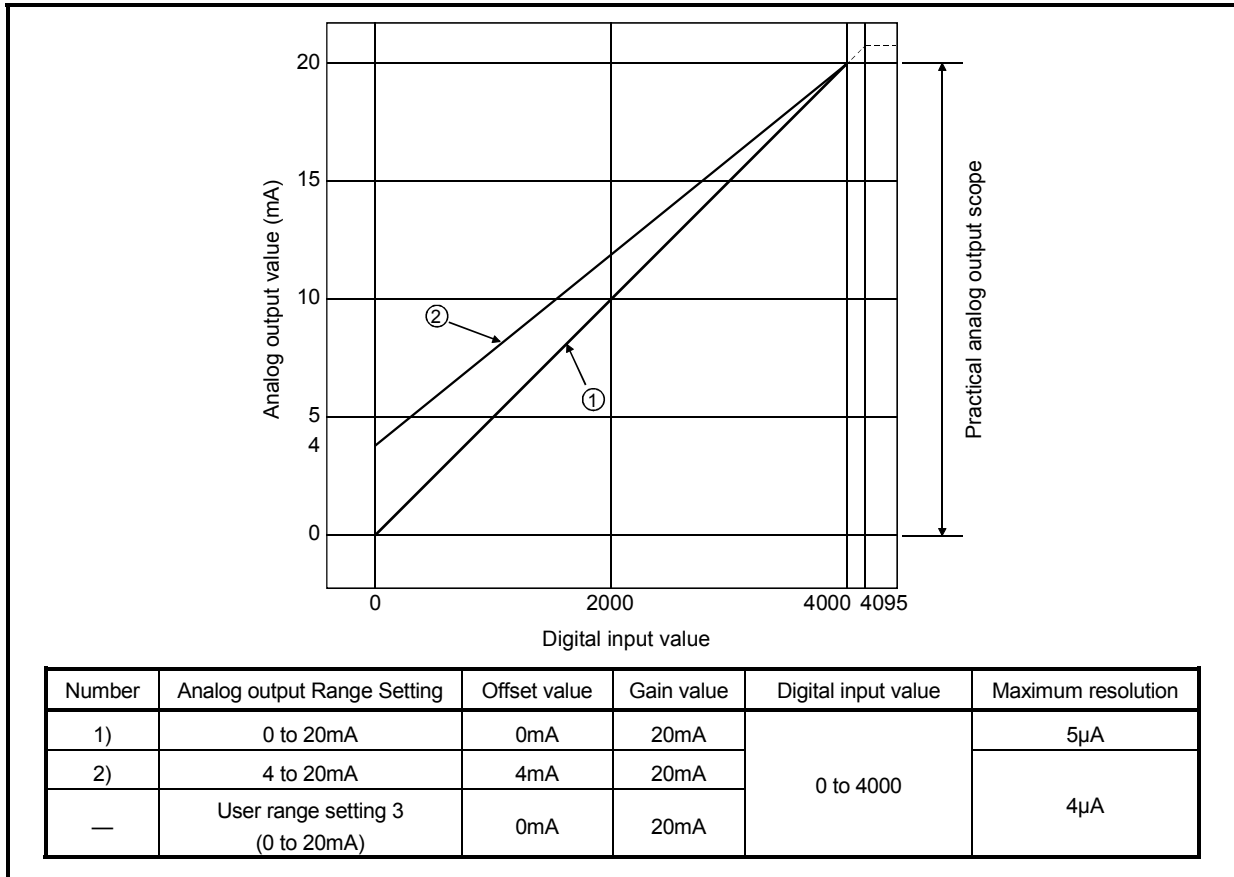

Fig. 3.2 Current Output Characteristic
<p>(1) Within the digital input and analog output scopes of each output range, the maximum resolution and accuracy are within the performance specification range. Outside those scopes, however, they may not fall within the performance specification range. (Avoid using the dotted line part in Fig. 3.2.)</p> <p>(2) Set the offset and gain values of the user range setting within the range satisfying the following conditions.</p> <p>(a) Setting range when user range setting 3 is selected: 0 to 20mA</p> <p>(b) (Gain value) > (Offset value)</p> <p>If you attempt to make setting outside the setting range of (a), the "RUN" LED flickers at 0.5s intervals. Set the values within the setting range.</p> <p>If you attempt to make setting outside the setting range of (b), the "RUN" LED flickers at 0.5s intervals. Make setting again.</p>